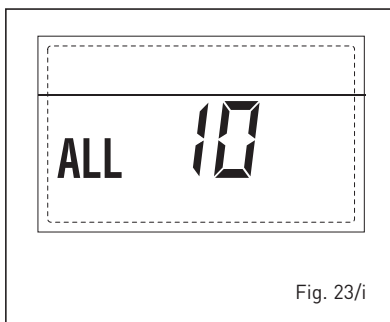

Fig. 23/i
- ACTIVATION OF THE "ALL 13" EXHAUST FUMES PROBE (fig. 23/l)**